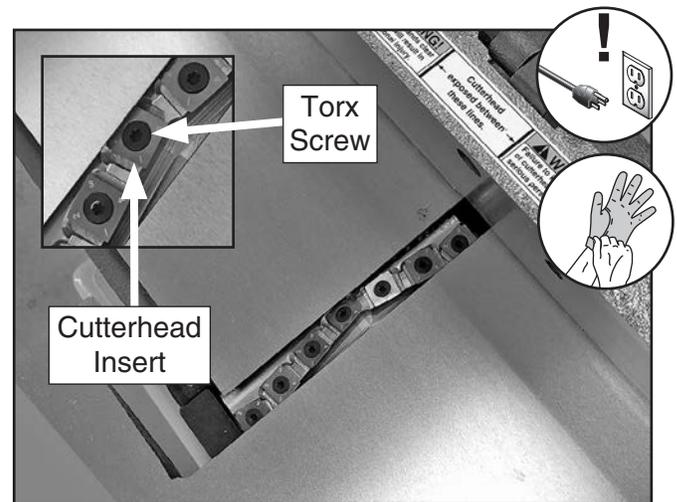

Figure 46. Example of cutterhead inserts and Torx screws.
8. Remove Torx screw and indexable insert (see **Figure 46**).